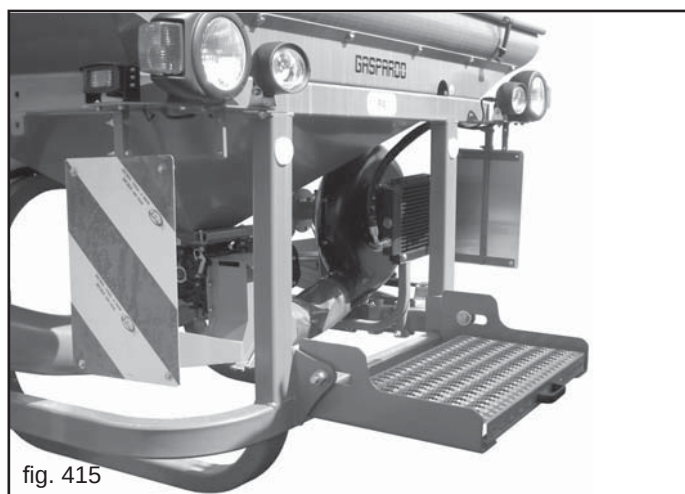

fig. 415
- 2) Pull the inspection platform down (Fig. 415).